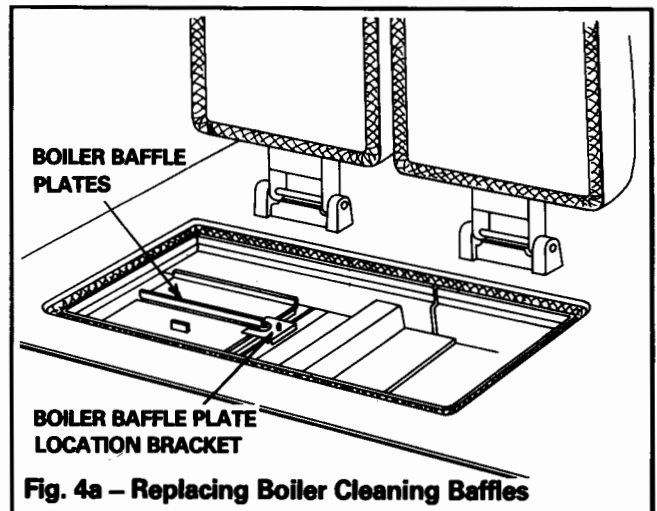

Fig. 4a – Replacing Boiler Cleaning Baffles
- b. The space left by a removed hotplate will expose two baffle plates lying across the top of the heat exchanger secured by a location bracket – See Fig. 4a. Detach bracket and lift out both of these baffle plates.
- i. Reposition the stainless steel 'V' baffle assembly (with angle brackets on top face nearest to front of appliance). Replace the boiler top baffle plates in reverse manner removed. See Fig. 4a and 4b and fix in place using location bracket, nut and washer.